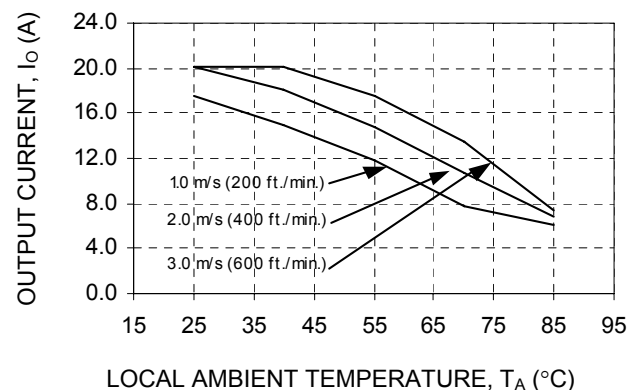

Figure 14. Output Current Derating for the QBK020A0B in the Transverse Orientation; Airflow Direction from  $V_{in}(+)$  to  $V_{in}(-)$ ;  $V_{in} = 48$ V.
The use of Figures 14 - 15 are shown in the following example:
Determine required airflow (V) (Use Figure 14):